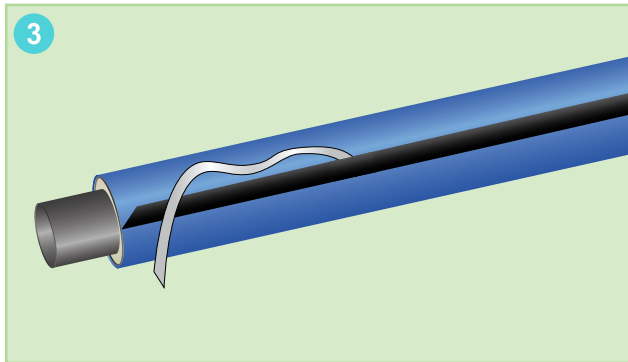

Figure 3: Applying the longitudinal closure seal.
Make sure when cutting, the pieces at each ends of the elbow, have a inside heel at least 2" in length to allow the taping. (figure 3)
- While still applying the hand pressure, peel away protective blue backing on the black longitudinal black tape and push down the black closure on PST blue surface (**figure 3**).